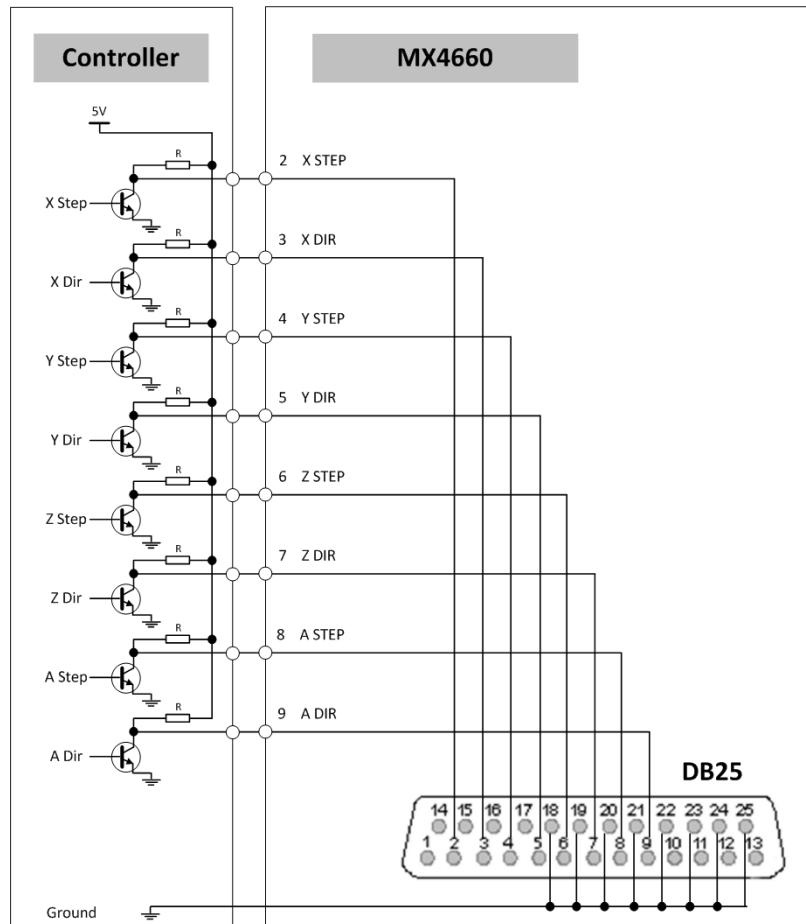

Figure 13 Connecting the step & direction signals of a controller to the MX4660
*The step and direction pin connections are required.* Step signals are sent to MX4660 via pin 2, 4, 6, 8 of the DB25 connector. Direction signals are sent to MX4660 via pin 3, 5, 7, 9. Refer to Figure 13.